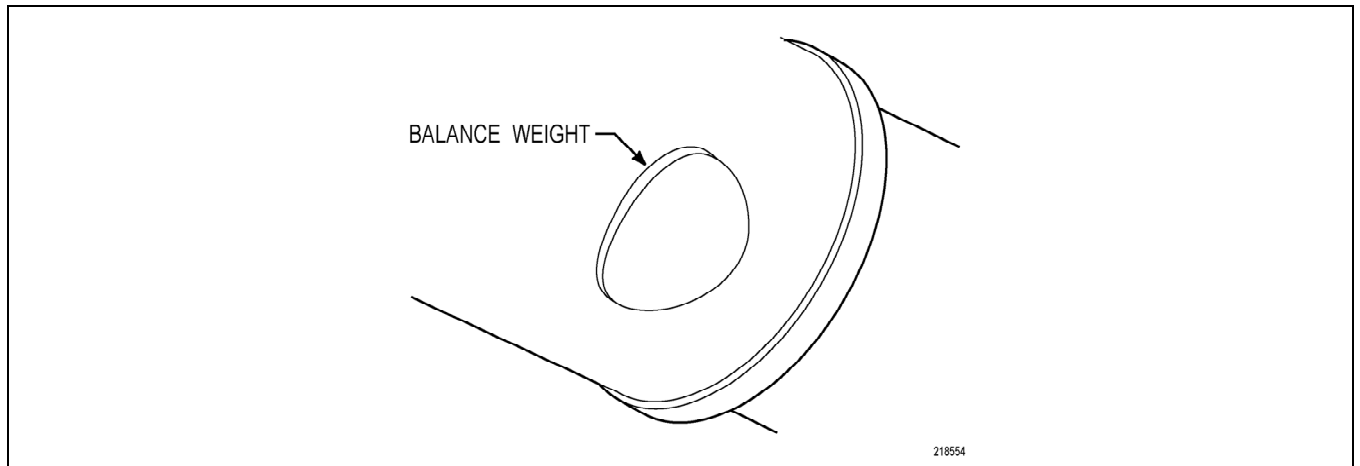

Figure K-1. Inspect Driveshaft for Missing Shaft Weights
- Inspect for missing shaft balance weights (Figure K-1)